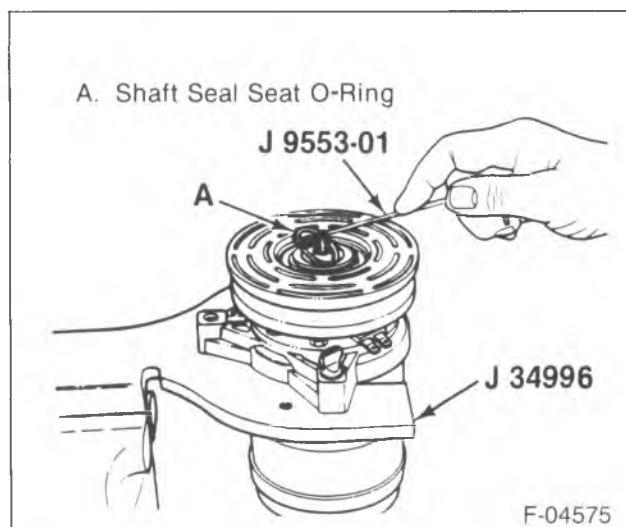

Figure 24—Removing the Shaft Seal Seat O-Ring
4. O-ring seal using J 9553-01 (figure 24).